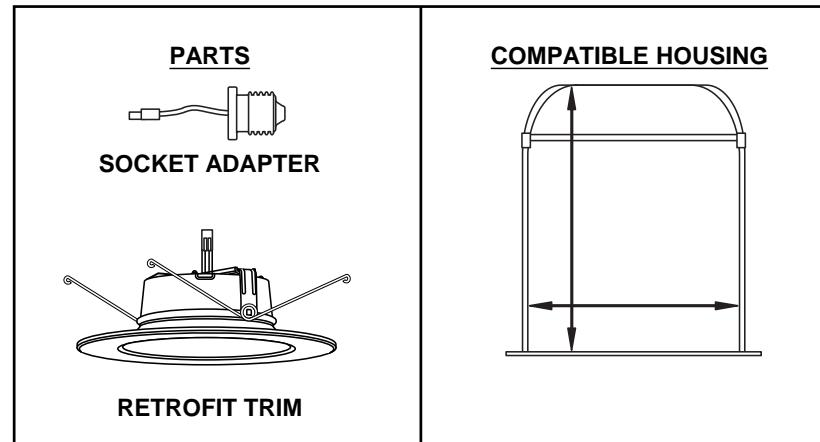

FIG. 1
1. Make sure the **light switch** is off. [Fig. 1]